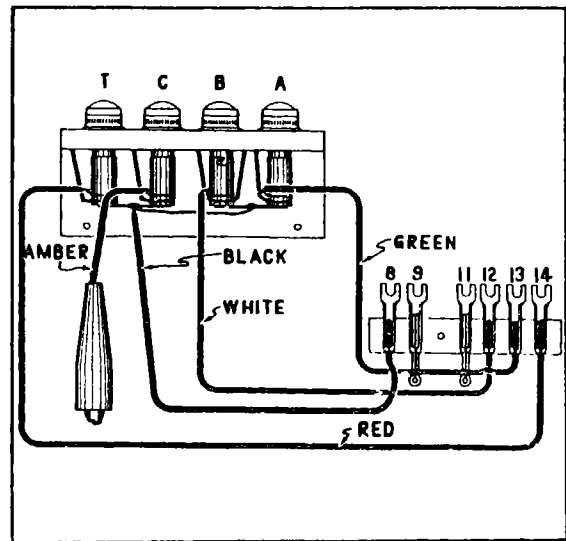

Figure 13-13. Circuit Analyzer Electrical Circuit
b. The Circuit Analyzer consists of a metal case in which are mounted four 12-volt jewel lights, colored red, amber, white and green. (Refer to Figure 13-13.) Five color-coded test leads lettered A, B, C, T and G extend from the case, one is equipped with an alligator clip and the remaining four are attached to a terminal connecting strip. These test leads are colored to correspond with the colored jewel lights. The black lead, lettered G, provides a common ground.